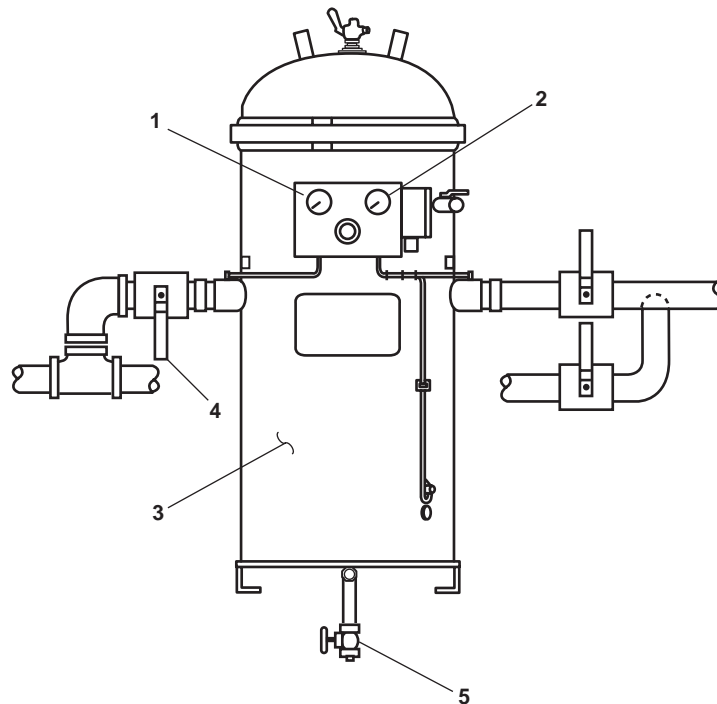

Figure 11. Fuel Filter/Water Separator
- c. Observe the readings on the inlet pressure gauge (figure 11, item 1) and the discharge pressure gauge (figure 11, item 2) on the fuel filter/water separator (figure 11, item 3). If the differential pressure between these gauges exceeds 10 PSI (0.7 bar) or 10 in. Hg (254 mm Hg), secure from fuel transfer and change the filters (TM 55-1925-283-12&P).
- d. To drain water from the fuel filter/water separator (figure 11, item 3), secure from fuel transfer, CLOSE valve FO-16, F.O. FLTR/WATER SEP INLET. COV (figure 11, item 4), and OPEN the drain valve (figure 11, item 5) (located under the deck plate). After draining the water, CLOSE the drain valve, OPEN FO-16, F.O. FLTR/WATER SEP INLET. COV, and resume fuel transfer.